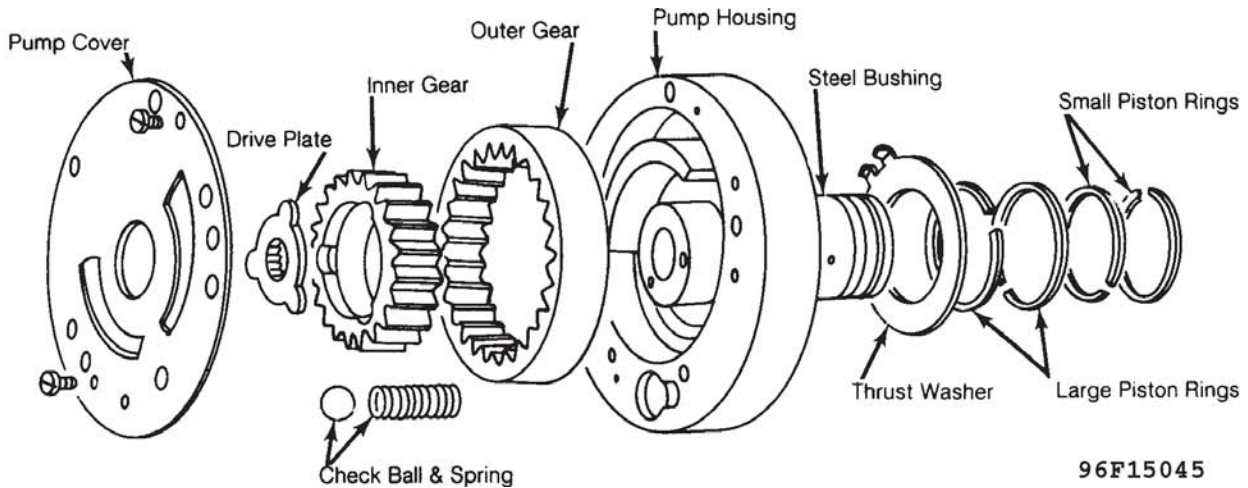

Fig. 9: Exploded View Of Oil Pump Assembly
3. Remove the 7/16" (11 mm) check ball and spring. Withdraw pump drive plate. Mark pump gears for reassembly reference and remove gears. See **Fig. 9**.
2. Place cover plate over rear of assembly. Compress spring and check ball, taking care not to displace them. Install and tighten cover-to-housing screws. Install thrust washer so that claws on washer face away from piston ring grooves and are engaged on lug on pump housing. See **Fig. 9**.